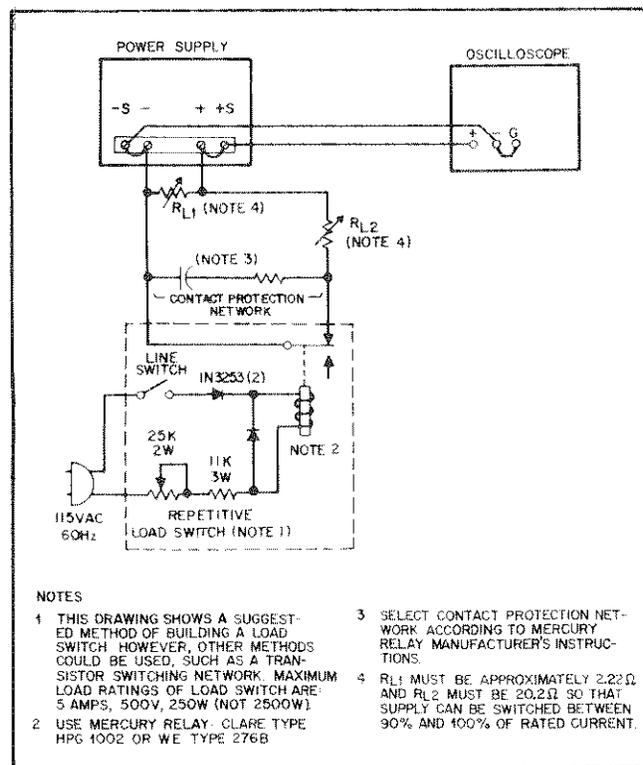

Figure 5-5. Load Transient Recovery Time Test Setup
5-33 We suggest that a mercury-wetted relay connected in the load switching circuit shown in Figure 5-5 be used for loading and unloading the supply. When this load switch is connected to a 60 Hz ac input, the mercury-wetted relay opens and closes 60 times per second. The 25 k control adjusts the duty cycle of the load current switching to reduce jitter in the oscilloscope display. This relay may also be used with a 50 Hz ac input.
- a. Connect load resistor  $R_L$  (Figure 5-5) across output of supply. Do not connect  $R_{L2}$  and load switch at this time.
- g. Turn off supply and connect load switch and load resistors as shown in Figure 5-5.